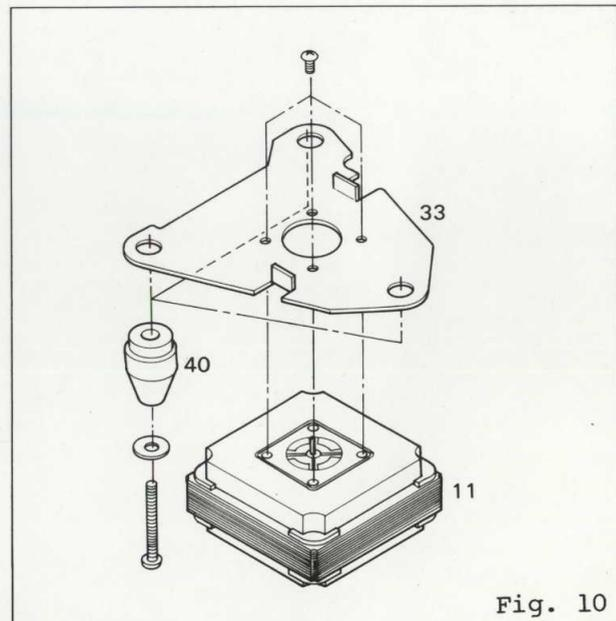

Fig. 10
2. Remove Motor Base (33).
3. Remove the Motor from the Motor Base. (Figure 10)
- Yes: Motor defective → Replace the motor. (Figure 10)